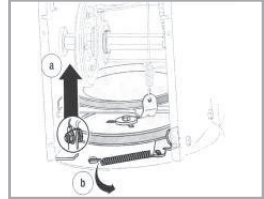

Fig.24
4. Loosen and remove the shoulder screw which acts as a belt keeper. Unhook the support bracket spring from the frame. See Figure 24.